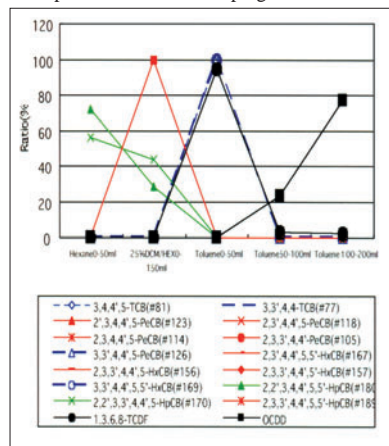

Fig. 3 Example of fractionation pattern of Active Carbon-blended Silica Gel column
- Because Active Carbon-blended Silica Gel requires only a small amount of toluene liquid to elute PCDDs/PCDFs, operating time can be shortened. (See Figure 3.)